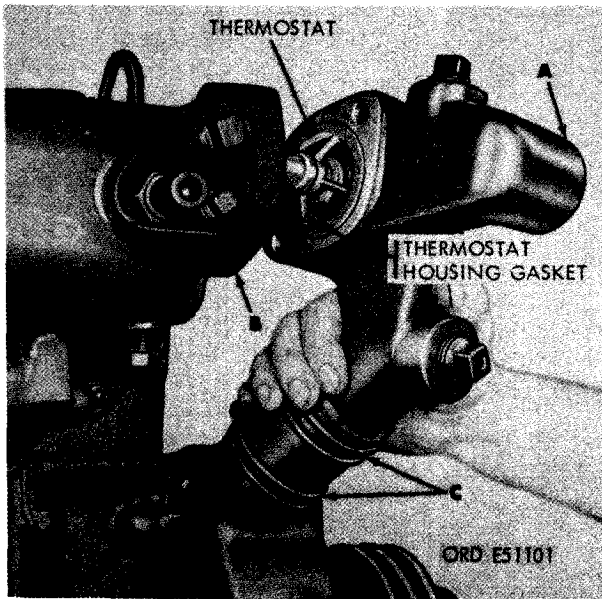

FIGURE 259. REMOVING OR INSTALLING THERMOSTAT HOUSING AND THERMOSTAT.
- (3) Figure 259. (A) Remove thermostat housing with thermostat. (B) Remove and discard thermostat housing gasket. (C) Remove the two 2-inch od hose clamps and hose from thermostat housing.